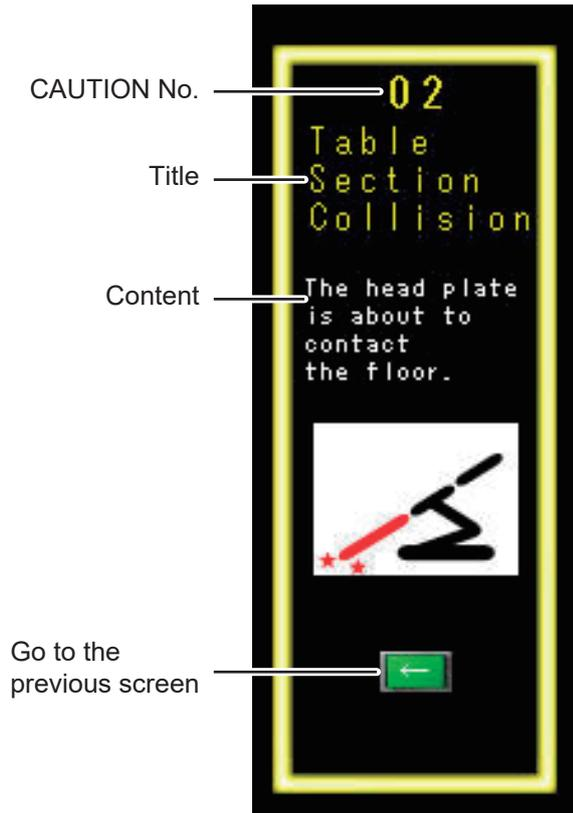
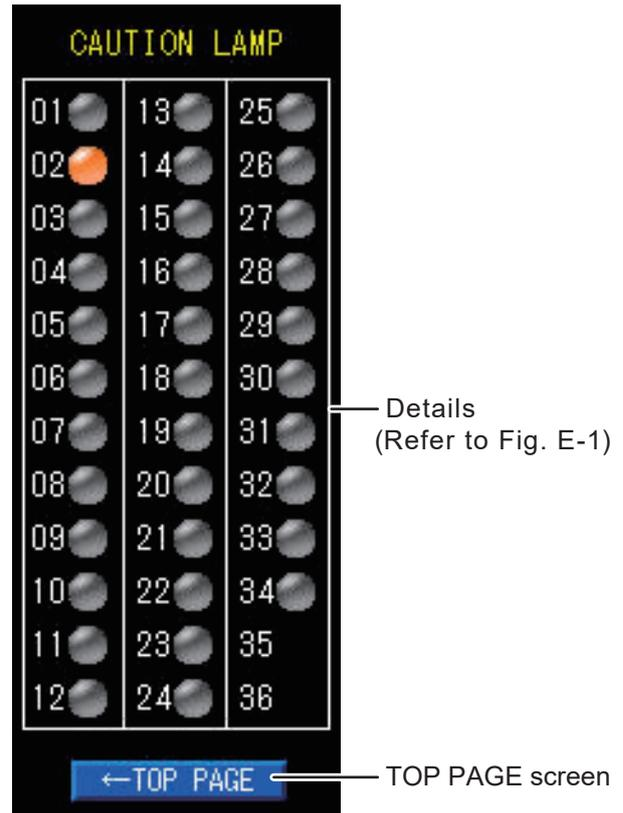

Fig. E-1
Fig. E-2
- To prevent damages, the operating table may stop automatically during the operation of the table and a caution/warning screen such as in Fig. E-1 appears on the touch screen. For specific recovery procedures after the operating table stopped, refer to Page 79.
- Fig. E-2 appears, if you click CAUTION in Fig. A while any caution or warning has occurred. When you tap the CAUTION No. which is lit, and then the screen of Fig. E-1 appears.